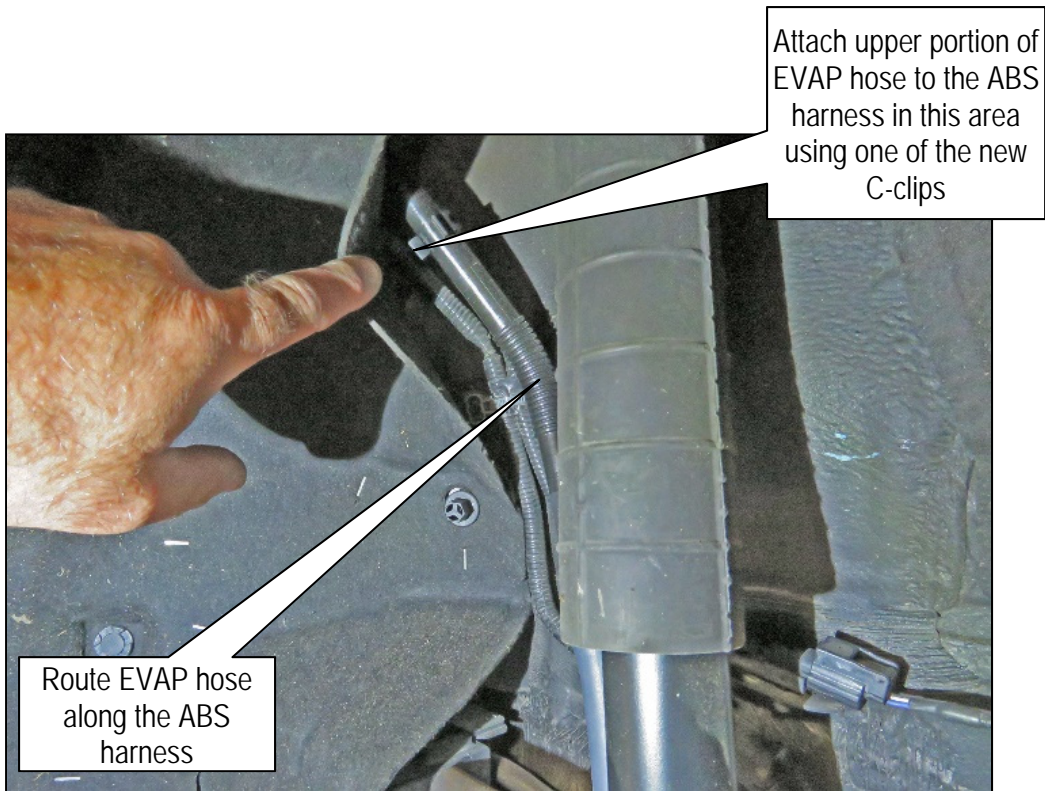

Figure 5
8. Pull out slightly on the plastic wheel well trim in the area shown in Figure 5.
10. Attach the upper portion of the EVAP canister filter vent hose to the ABS harness as shown in Figure 5.